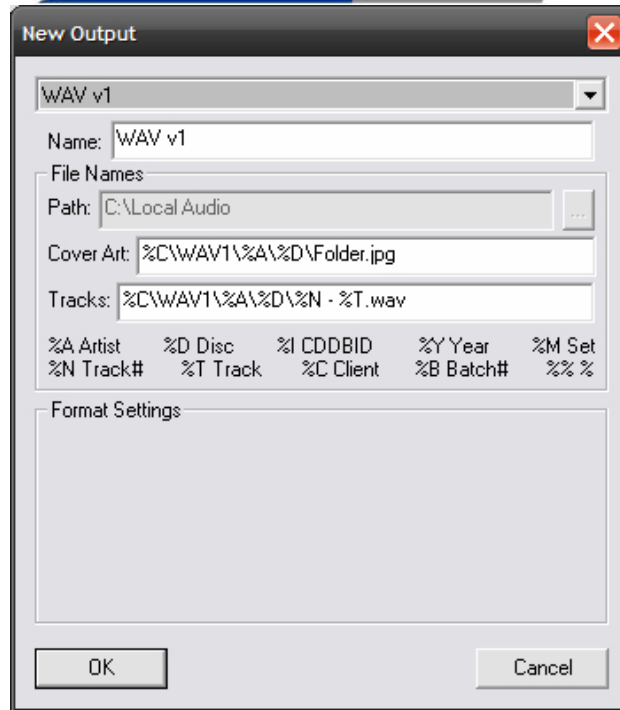

Figure 4.17- MP3 CODEC Settings
- To modify a CODEC's settings, select the codec you wish to modify and click the **[Edit]** button. For the MP3 CODEC, the box in figure 4.17 appears.